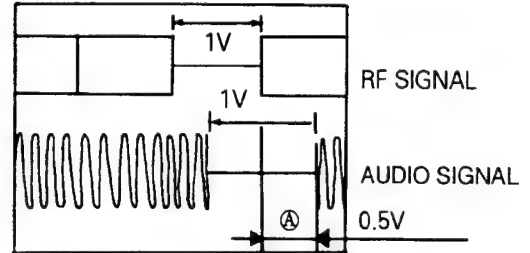

Fig. C-9-1
<p>Checking Procedure</p> <ol style="list-style-type: none"> <li>1) Confirm that the period ① of Fig. C-9-1 is within <math>\pm 0.5V</math>.</li> <li>2) If the result is abnormal, repeat adjustment #7. (X-Value adjustment).</li> </ol> <p>※ 2H : SP, V : Vertical</p>